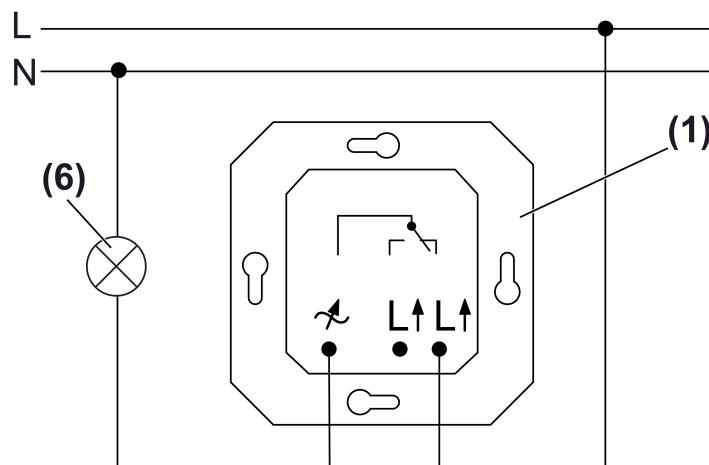

Figure 2: Connection diagram
- Connect control unit (1) and lamp (6) according to connection diagram (figure 2).